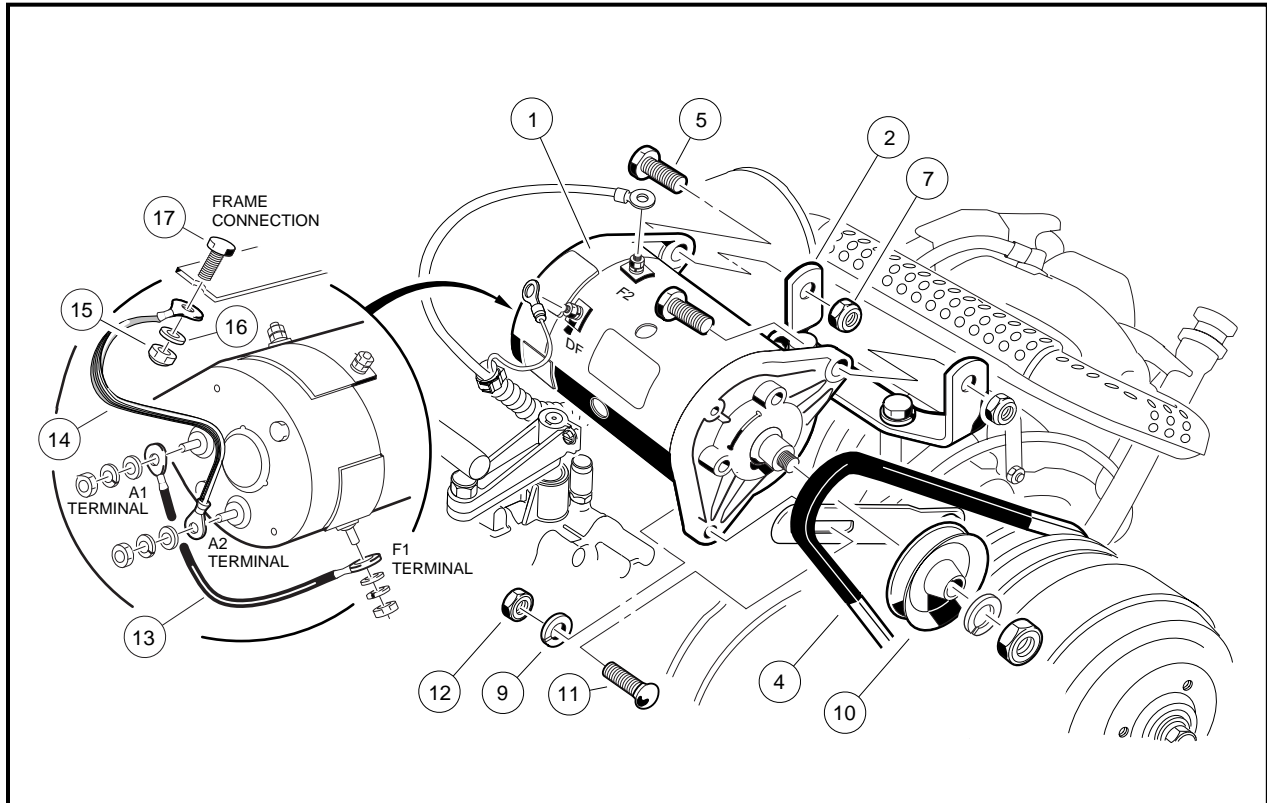

Figure 12-2 Starter/Generator Removal
3. Disconnect the wires from the starter/generator (1). Mark wires before disconnecting. Loosen the pivot nuts (7) and bolts (5) (**Figure 12-2, Page 12-3**).
4. Remove the mounting/adjustment nut (12), washer (9) and bolt (11). Lower the starter/generator and remove the belt (4) from the pulley (10) (**Figure 12-2, Page 12-3**).
5. Support the starter/generator so that when the pivot bolts are removed the starter/generator will not fall to the ground. Remove the pivot nuts (7) and bolts (5) from the mounting bracket.